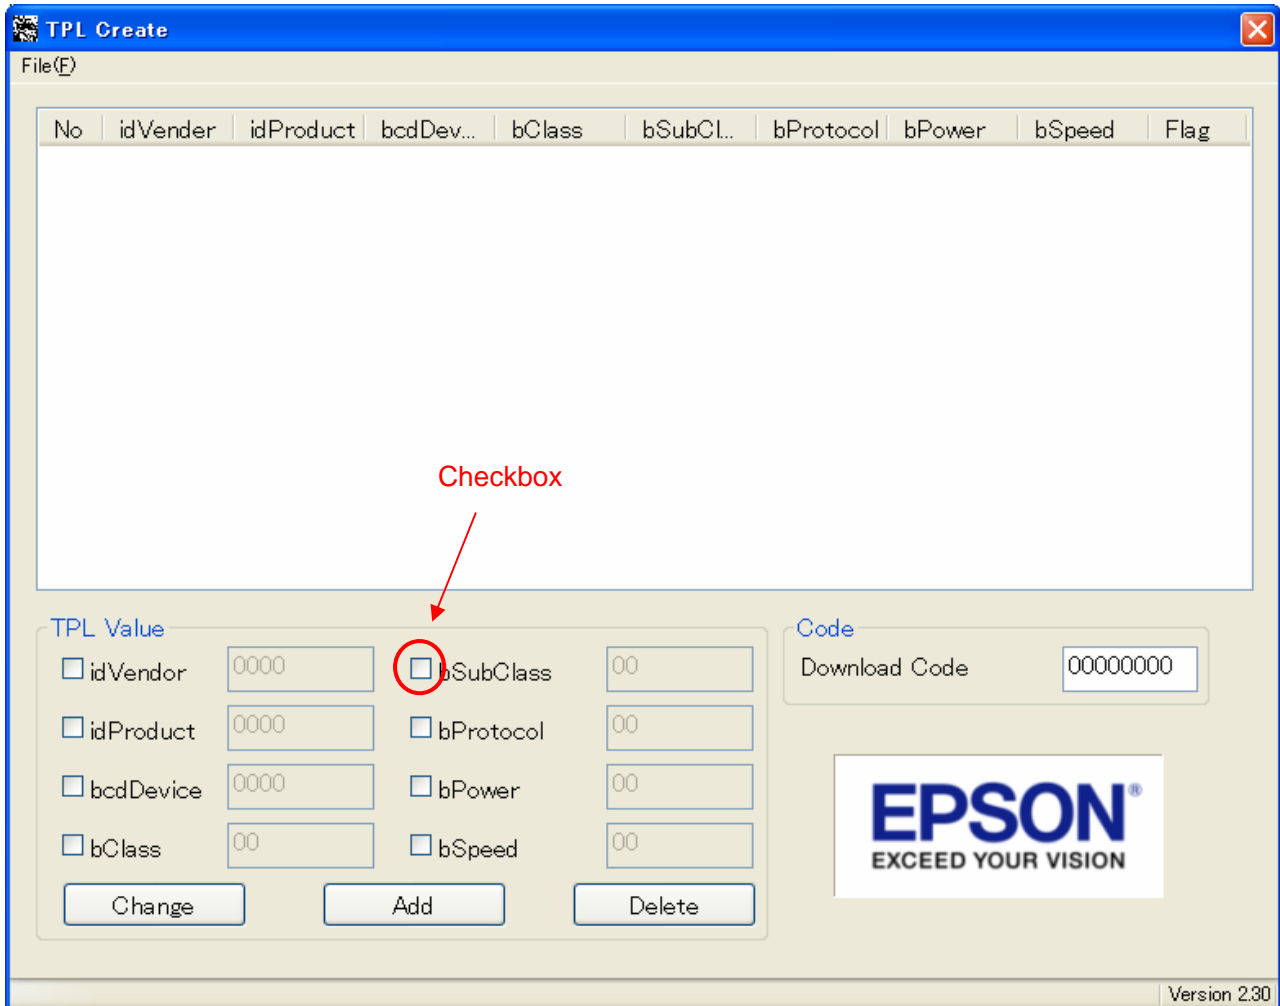

Fig. 4-5 Main screen
Step 2: Select **File** → **New** to set **TPL Value** and **Code**, as shown in Fig. 4-5.